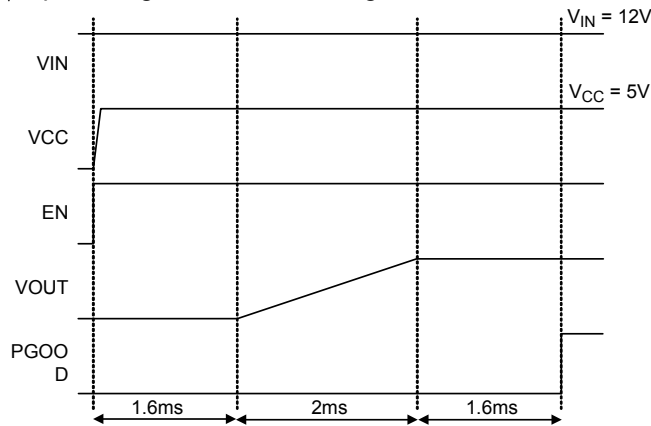

Figure 1. Start-Up Sequence
1.6ms (typically). The typical start-up waveform shown in Figure 1 indicate the sequence and timing between the output voltage and related voltage.